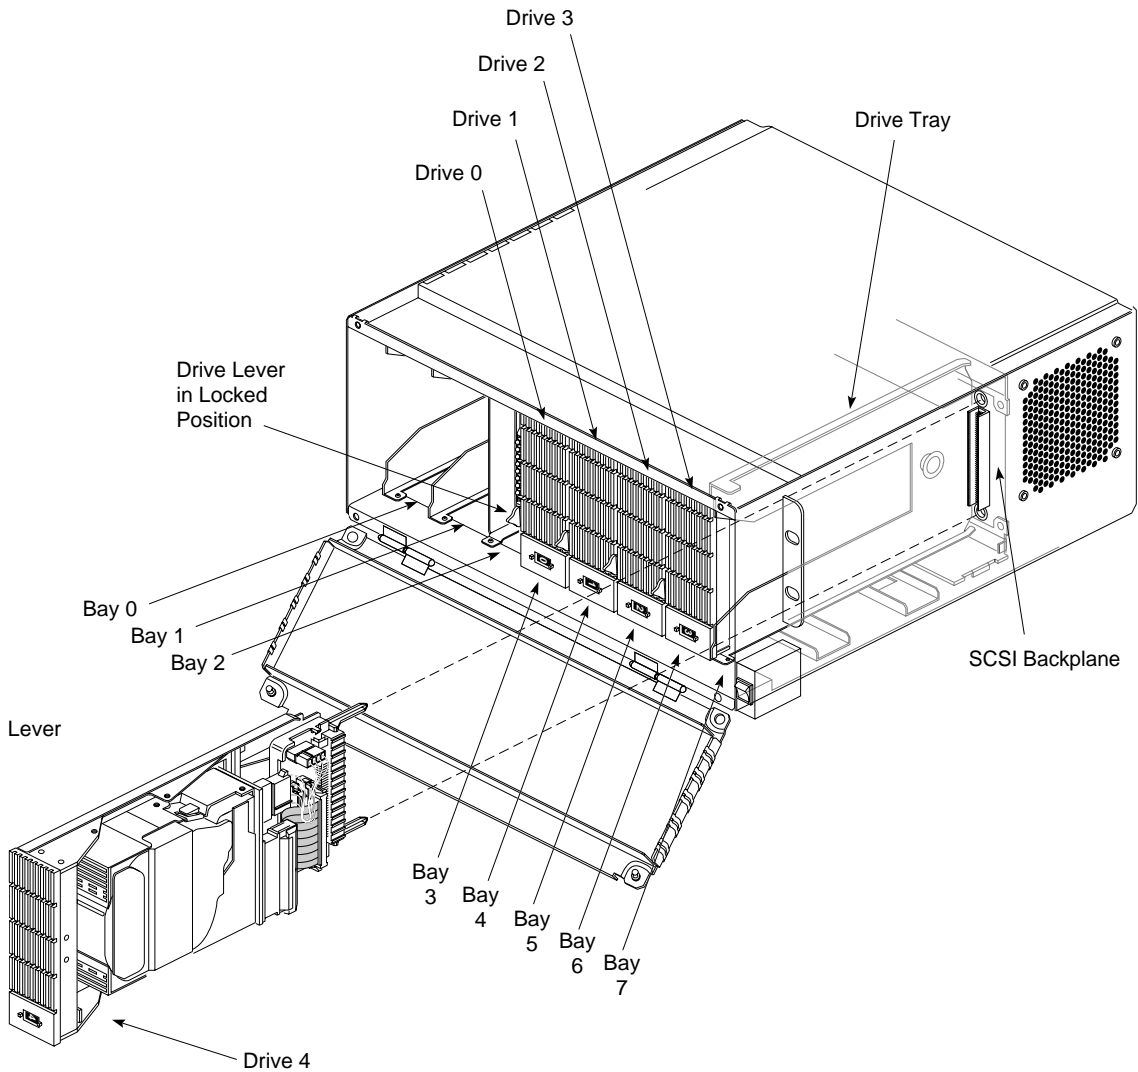

Figure A-5 Installing Disks in the RAID Box
To install or remove a drive, follow these instructions and see Figure A-5.
1. Hold the drive sideways, with the top of the drive facing right and the bottom of the drive sled facing left. See Figure A-5.